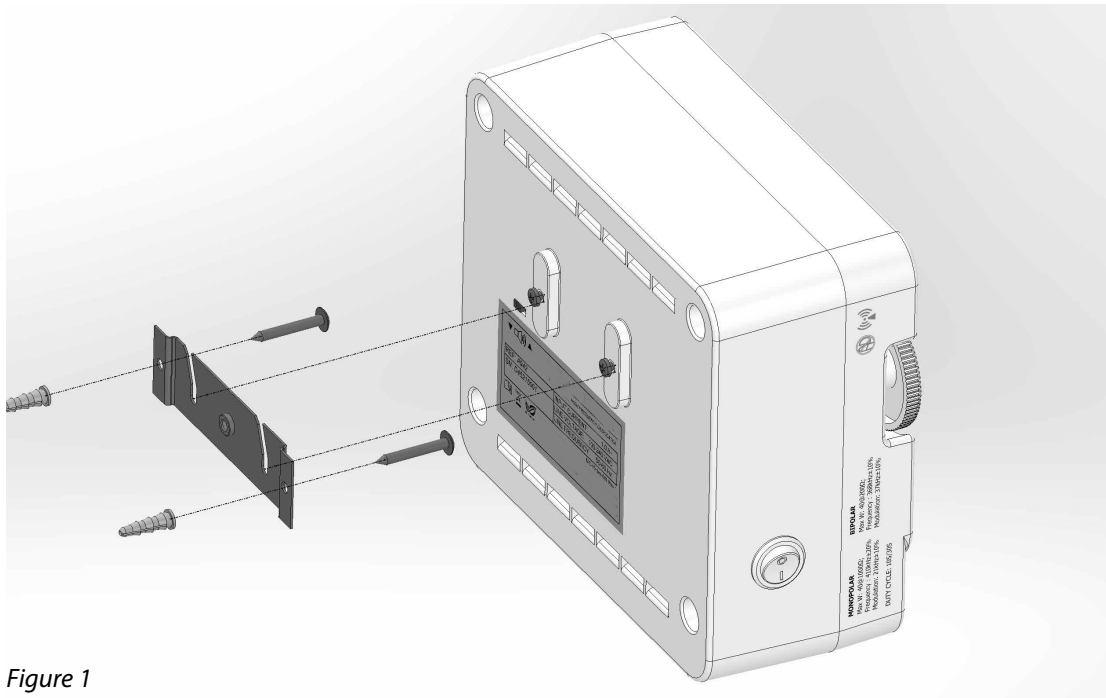

Figure 1
1. Mount the McKesson Argent High Frequency Electrocautery Unit on the wall or optional mobile stand using the standard mounting kit (see figure 1).